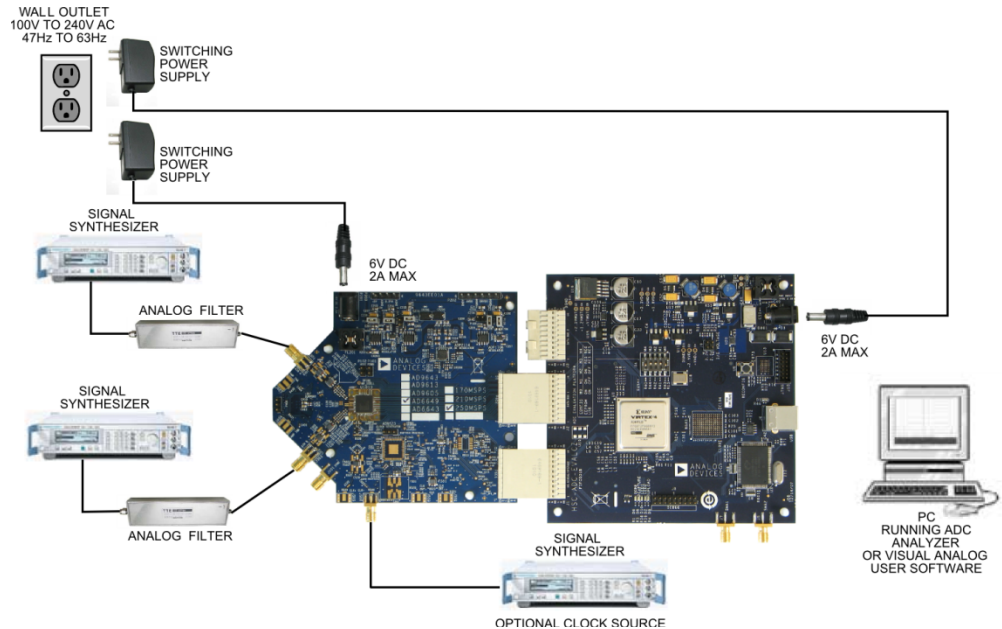

Figure 1: AD9613 Evaluation Board with HSC-ADC_EVALCZ Data Capture Board
1. Connect the AD9613 evaluation board and the HSC-ADC-EVALCZ board together as shown in Figure 1.
9. Next open the SPI Controller software. If prompted for a configuration file, select the configuration file titled AD9613spiR03.cfg. If not, check the title bar of the window to see which configuration is loaded. If necessary, choose “Cfg Open” from the “File” menu and select one of the configuration files named above. Note that the CHIP ID(1) field may be filled whether the correct SPI Controller configuration file is loaded or not.
11. Set the DCO Clk Delay Enable checkbox in the FLEXOUTPUT DELAY(17) panel on the ADCBase0 tab as shown below. In addition, set the DCO Clk Delay register to the ‘600ps